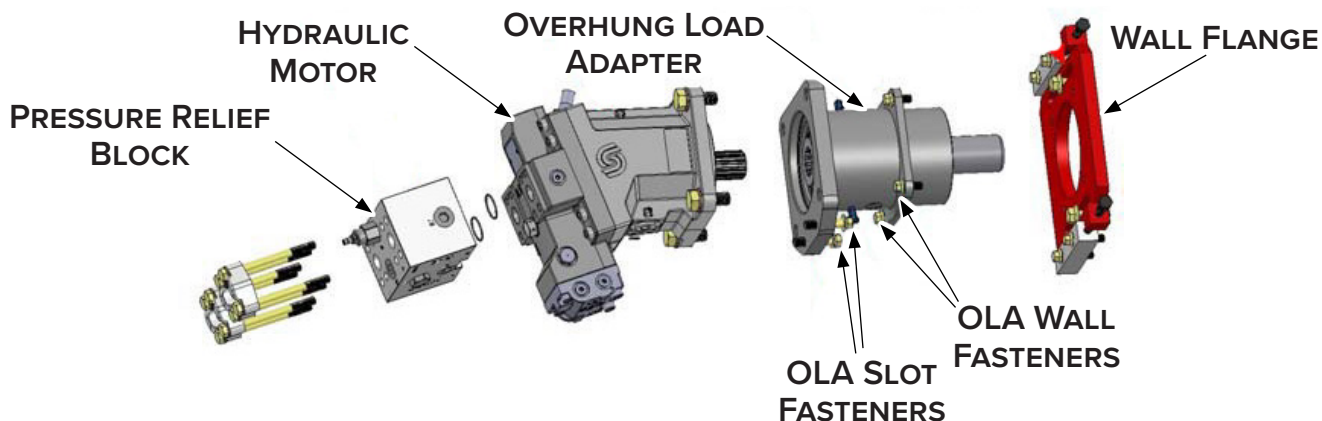

Figure 29
2. Remove all hydraulic hoses off the hydraulic motor and pressure relief block. The fasteners on the pressure block also hold the block onto the hydraulic motor. See Figure 29.
3. Remove all four (4) fasteners to separate the hydraulic motor from the overhung load adapter.
6. Remove all four (4) overhung load adapter wall fasteners to separate the overhung load adapter from the wall flange.